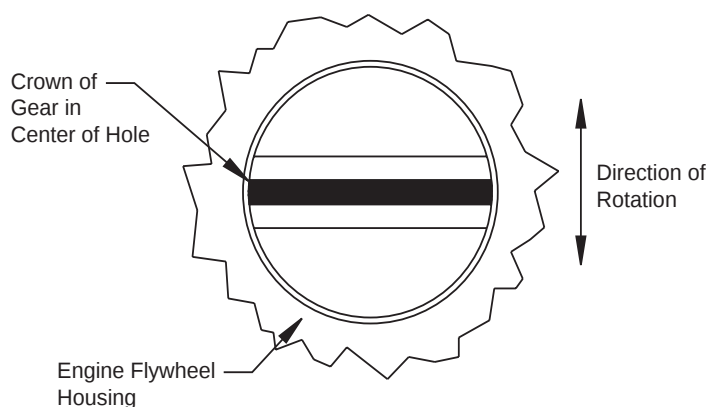

Figure 11. View of Tooth Crown through Speed Sensor Mounting Hole
1. Bump the engine starter until the crown (top) of a gear tooth is visible in the center of the hole. See Figure 11.
1. Turn the output shaft until the crown of the gear tooth or speed wheel tooth is centered in the sensor hole. See Figure 11.